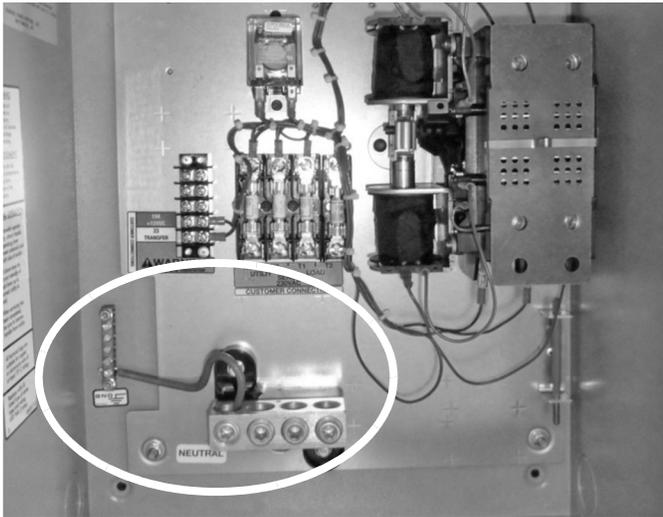

Figure 2-6.
10. Install a jumper wire between the provided Neutral block and Earth ground (Figure 2-6).